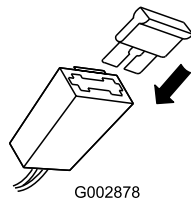

Figure 8
2. Install the fuse in the fuse holder as shown (Figure 8).